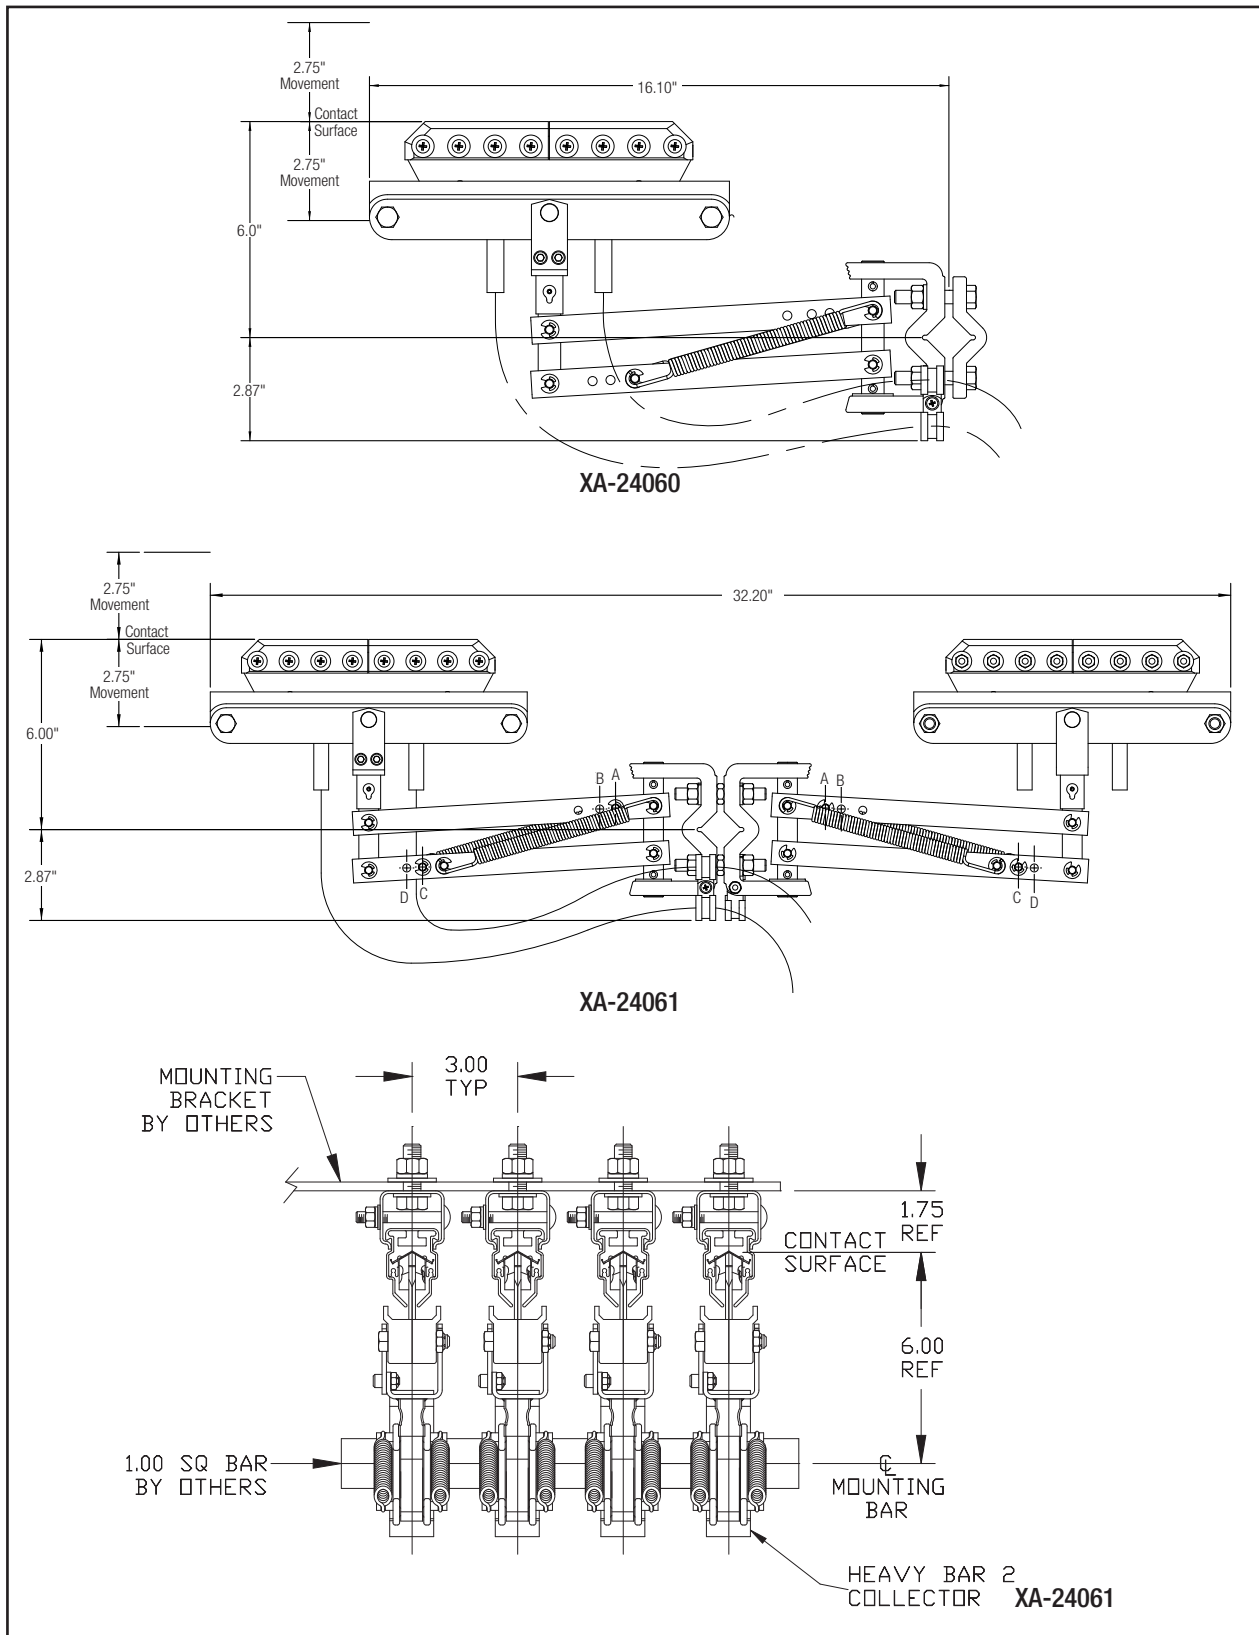

Figure 31-1
2. Align the collectors on the square bar as shown in **Figure 31-1**. The typical phase-to-phase mounting distance between collectors is 3 inches. Please consult the specific layout drawing for exact values. Take special care as to align the collector arms so they run directly beneath the conductor bar. This will assure maximum shoe life and permit full articulation of the collector head.